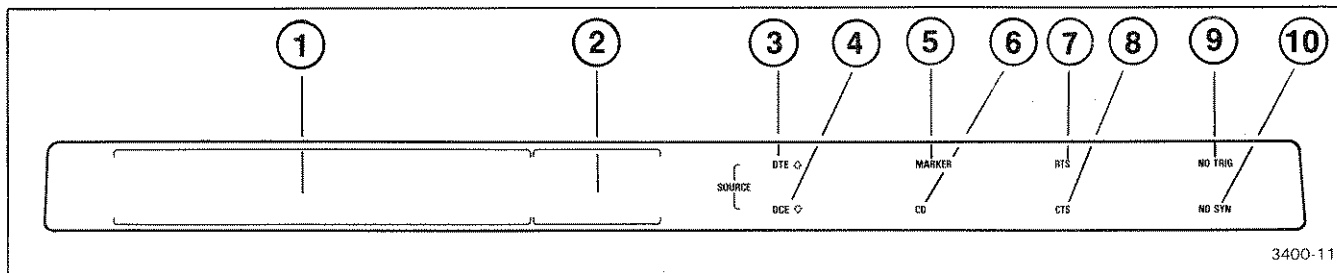

Figure 3-6. Digital Displays and LED Indicators.
- 6 The MARKER pin can be connected with a jumper wire to any interface line. The status of the line is stored with each received character and reflected in the MARKER LED indicator on the display panel (see Figure 3-6).